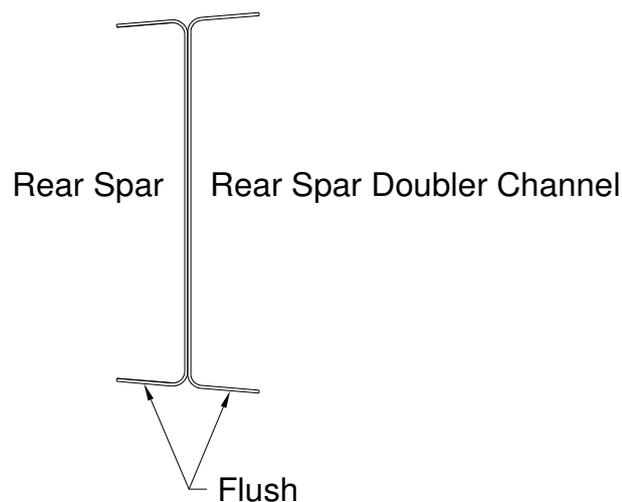

Figure 8
- 6.3. Ensure the lower flanges of both rear spars (GA8-551021-15) and the lower flange of the new rear spar doubler (GA8-950075-25) are flush as shown in Figure 8.